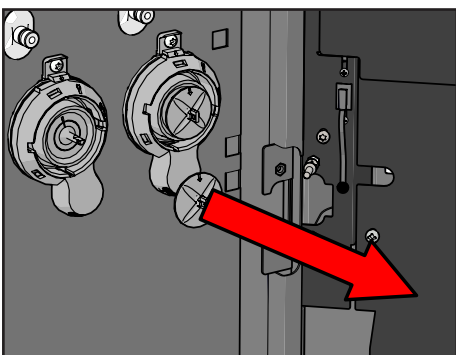

Figure 42.
12. Remove the mixer blade from the motor shaft (see Figure 42).